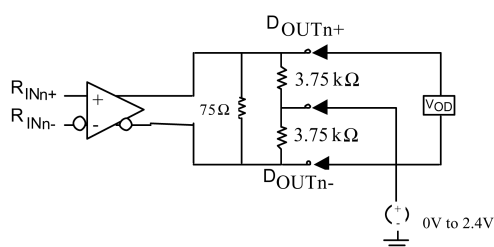

FIGURE 1. Common Mode Supply Test Circuit
- When the true and complement LVDS outputs (having a 75Ω connected between outputs) are connected to 3.75 kΩ resistors and the common point of those 3.75 kΩ resistors are connected to a voltage source that sweeps from 0 to 2.4V, the DC V_{OD} and ΔV_{OD} are still maintained (see Figure 1).